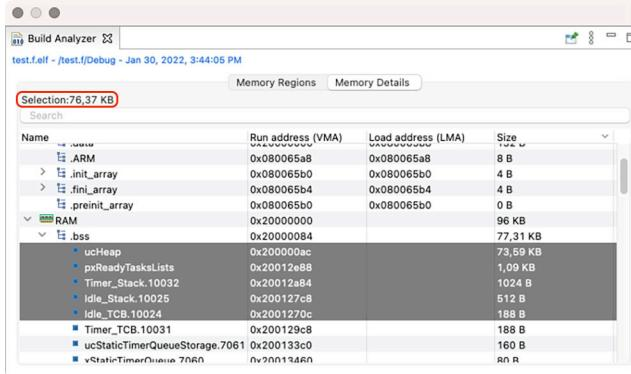

Figure 24.16: The Memory Details tab in the Build Analyzer view
- The Memory Details tab (see **Figure 24.16**) contains detailed program information based on the ELF file. The different linker section names are presented with address and size information. Each section can be expanded and collapsed. When a section is expanded, functions/data in this section is listed. Each presented function/data contains address and size information.
The sort order of a **Memory Details** tab column can be changed by clicking on the column name. The information in the **Memory Details** tab can be filtered by entering a string in the search field. The view provides a convenient feature. The sum of the sizes of several lines in the **Memory Details** tab can be calculated by selecting these lines in the view. The sum of the selection is presented above the Name column in the view, as shown in Figure 24.16. The data in the **Memory Details** tab can be copied to other applications in CSV format by selecting the rows to copy and typing Ctrl+C (or CMD+C in Mac).